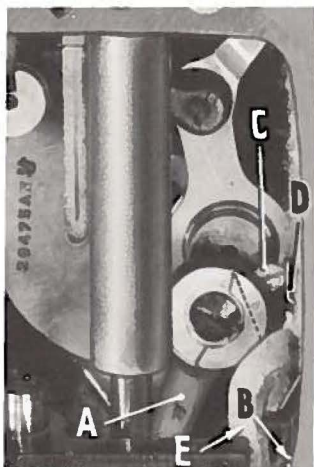

Fig. 30
2. Position bracket by means of screw (B, Fig. 30) so that wick (C) passes through the center of the slot in needle bar link (A). Wick (C) must contact the needle bearings. Proper wick contact with the needle bearings can be obtained by bending the wick support bracket (D) closer or further away from the needle bar link as required. Be sure to secure the felt strip (E) to the upper needle bar bushing with spring clip 61454 B.